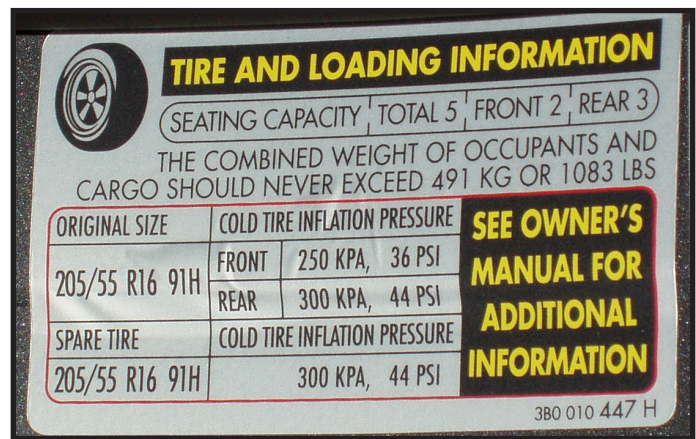

FIGURE 20: Example of a Vehicle Tire Placard
When tires need to be replaced, do not guess what tire is right for the vehicle. For the answer, refer to the vehicle tire placard and/or certification label, usually located on the vehicle door edge, door post, glove box or fuel door (see Figure 20 and 21.) Also, check the vehicle owner's manual for any additional tire replacement recommendations. The vehicle tire placard identifies the size of the tires, including the spare, that were installed on the vehicle as original equipment (OE). The placard also specifies the recommended cold inflation pressures for the tires on the front/rear axles and for the spare. The placard may include seating capacity and combined weight of occupants and cargo. If the vehicle does not have a vehicle tire placard or certification label, consult the vehicle owner's manual, vehicle manufacturer, or tire manufacturer. A tire dealer should also be familiar with these requirements and is an excellent resource.